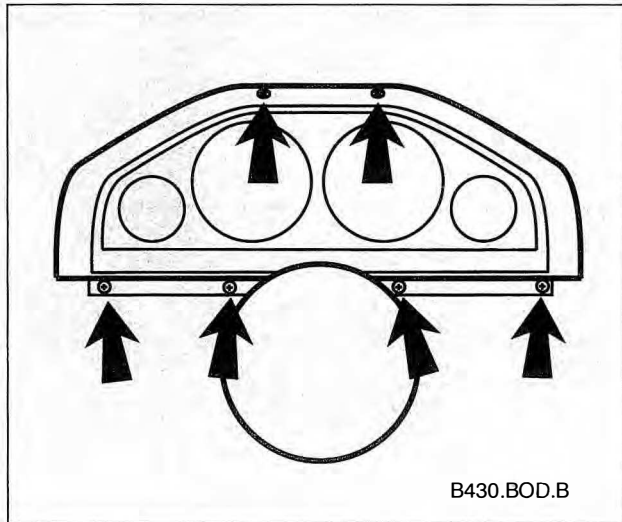

Fig. 4-3. Instrument cluster trim plate retaining screws (arrows) to be removed.
5. Remove the instrument cluster trim plate by removing the retaining screws shown in Fig. 4-3.